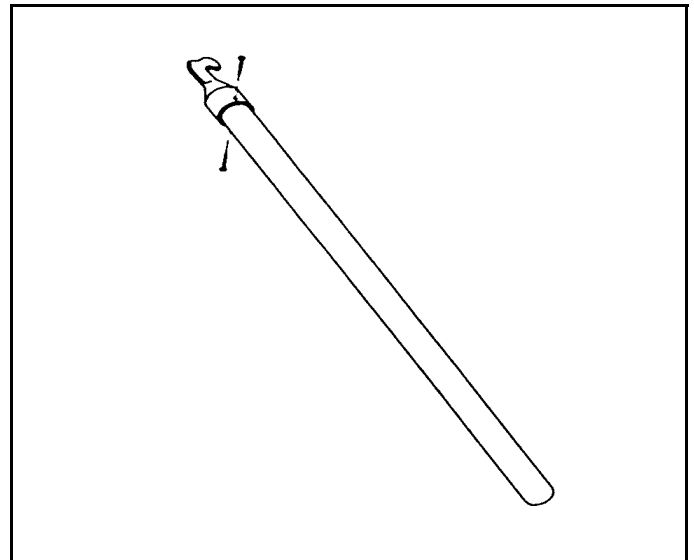

Figure 7
6. Attach door opening hook to wood dowel using (2) 1/2" wood screws. Figure 7.